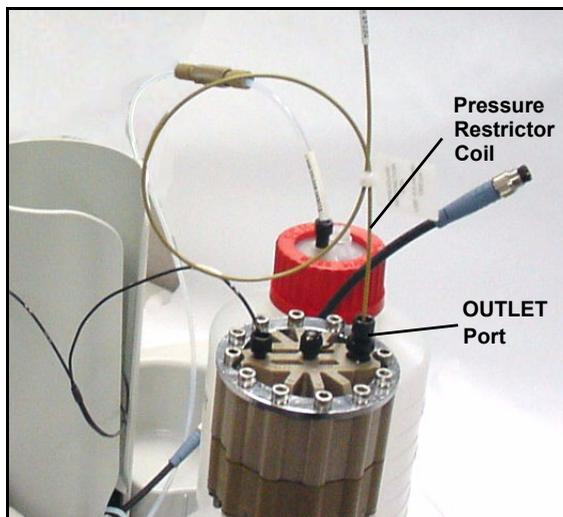

Figure B-38. EGC Outlet Connection for Conditioning the EGC
5. Locate the yellow 0.5 mL/min, 1000 psi (7 MPa) pressure restrictor coil (P/N 053765) in the ICS-2000 Ship Kit (P/N 057905). Connect one end of this coil to the EGC **OUTLET** port (see Figure B-38). Leave the other end of the coil unconnected.